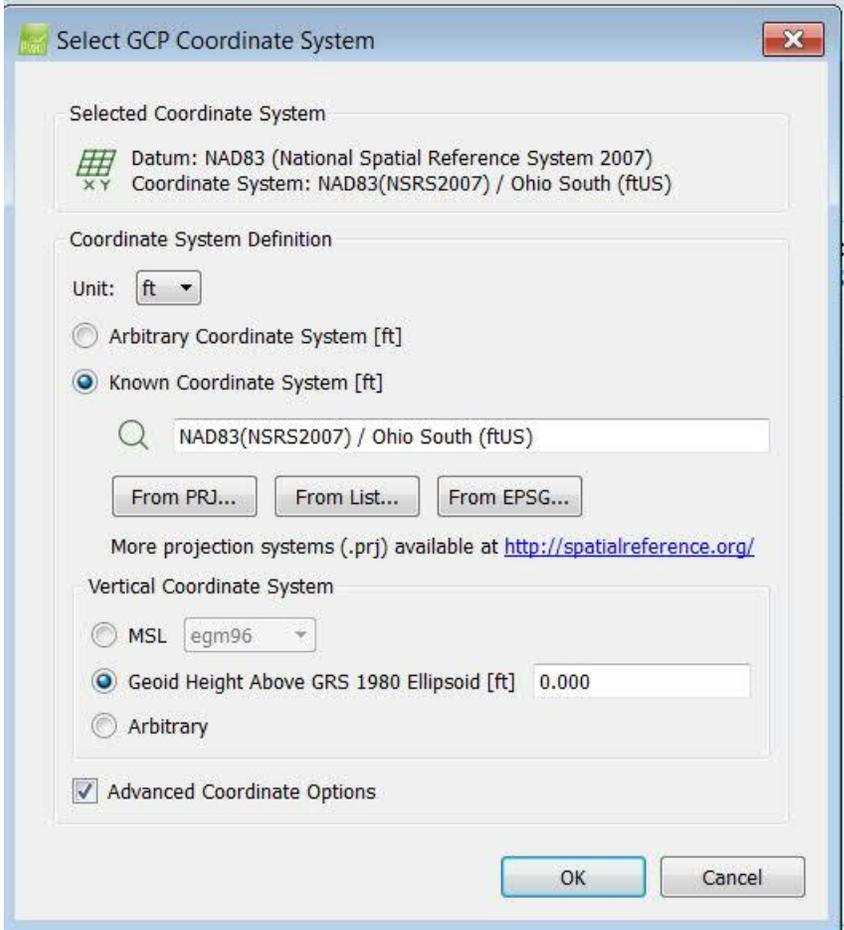

Figure 2 Selecting GCP coordinate system
- b. Use the “Advanced” option to setup the “geoid height above GRS 1980 ellipsoid” to “0.0”, see Figure 2.